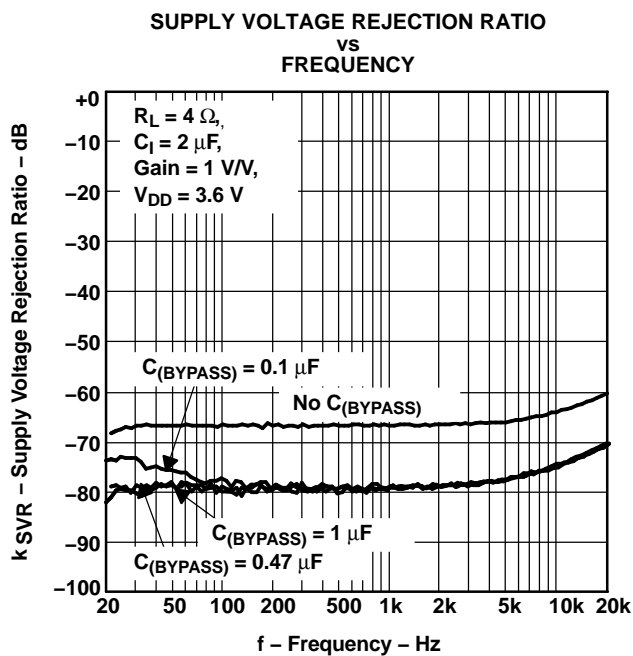

Figure 18.
- **Mid-supply bypass capacitor,  $C_{(BYPASS)}$ , not required:** The fully differential amplifier does not require a bypass capacitor. Any shift in the mid-supply voltage affects both positive and negative channels equally, thus canceling at the differential output. Removing the bypass capacitor slightly worsens power supply rejection ratio ( $k_{SVR}$ ), but a slight decrease of  $k_{SVR}$  may be acceptable when an additional component can be eliminated (see Figure 18).